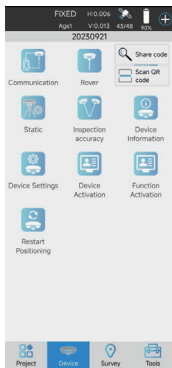

Figure 2.13-1
1. Click on the "+" in the software's title bar to enter a share code or scan to receive data shared from other devices, as shown in Figure 2.13-1.